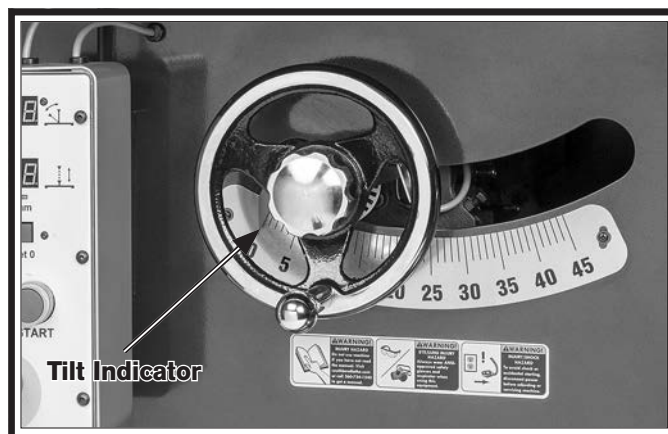

Figure 118. Tilt indicator location.
- If blade is 90° to table, then adjustments do not need to be made. Make sure tilt indicator shown in **Figure 118** points to 0° mark on scale. Adjust position by loosening button head screw, moving indicator with your fingers, then tightening screw.